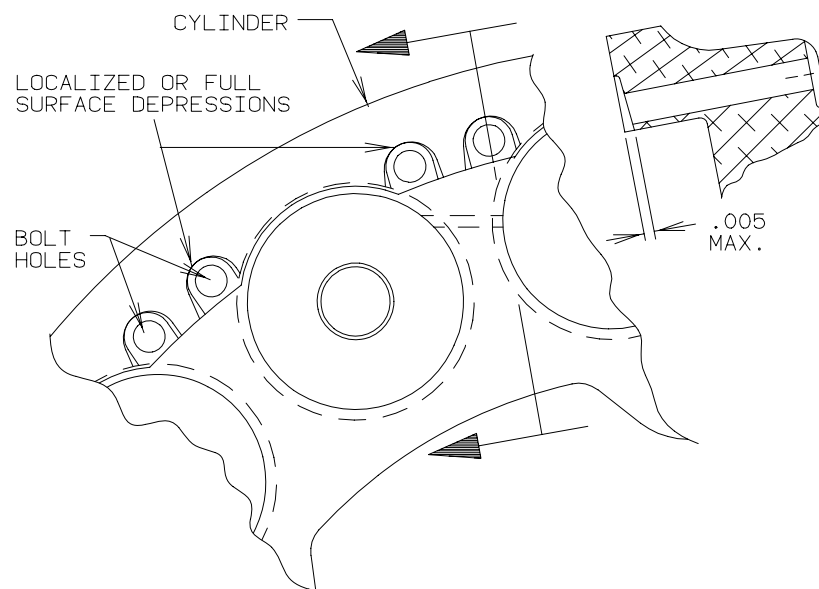

Figure 304 -Cylinder To Back Plate Surface Inspection
- (1) Visually inspect cylinder for cracks, nicks, corrosion, or other damage. Cracks in the lug area around the anchor bolts or the port bosses are cause for replacement of the cylinder. Check for dimpled areas around back plate bolt holes. Maximum allowable depression is 0.005 inch (0.127 mm). Ref. Figure 304.
- (2) Inspect the fitting ports and piston bores for contamination. Light scratches or nicks in the piston bores, pilot bores, or on the chamfered surfaces within these bores may be hand polished with 600 grit emery. Power tools are not recommended as they may remove excessive amounts of material. Thoroughly clean part.